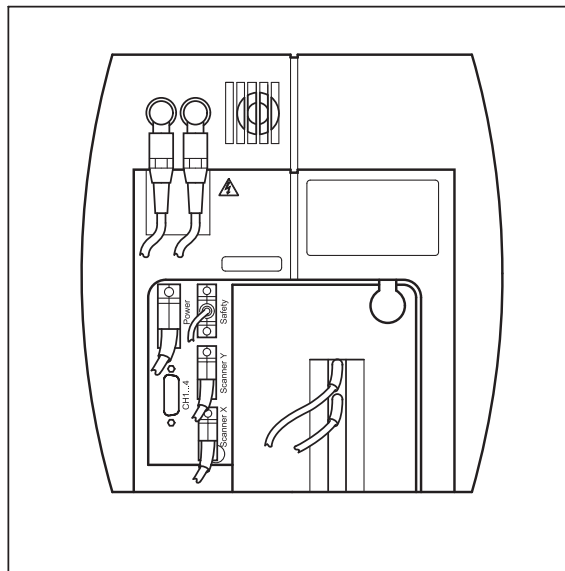
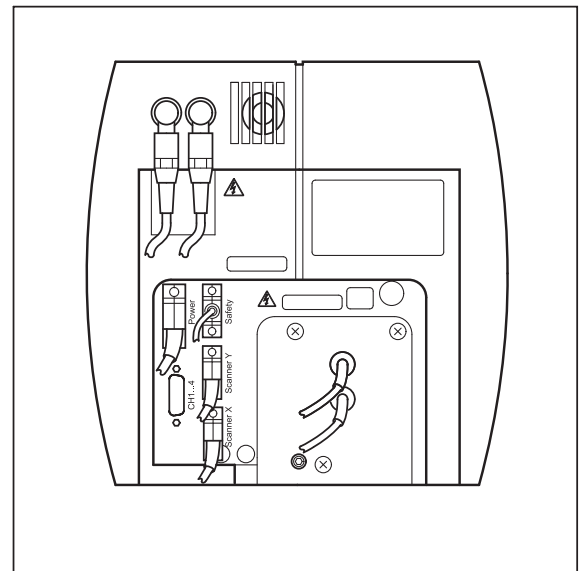

Fig. 7-5 Rear view of META scan head
Fig. 7-6 Rear view of META scan head with blue cover removed
- LSM 510 META scan head: Remove the blue cover from the back of the scan head (Fig. 7-5 and Fig. 7-6).